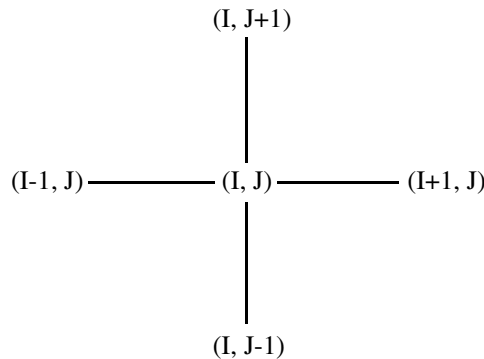

Figure 3-6. IJ-ordered data point neighbors.
3.3.1.2. IJ-Ordered Data Points. The data points for 2- and 3-D surface field plots are usually organized in a two-parameter mesh. Each data point is addressable by a set of the two parameters (I and J) and has four neighboring data points (except at the boundaries). The points are located above, below, to the left, and to the right as shown in Figure 3-6.